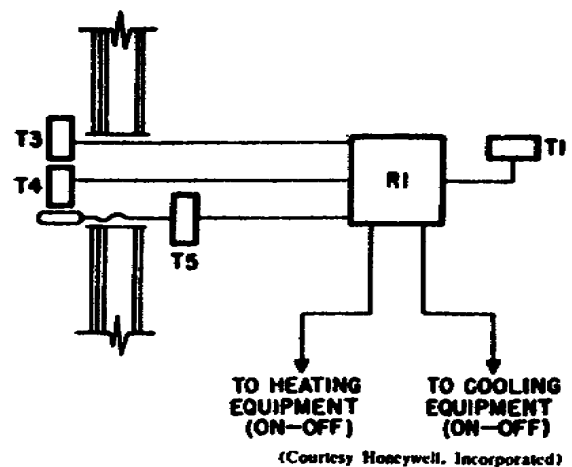

Figure 135. Two-position heating and cooling system.
9. **Summer-Water Compensation for a Two-Position Heating or Cooling System.** Controller T5 shown in figure 135 will select either the summer or winter compensation schedule. This selection depends upon the outdoor temperature.